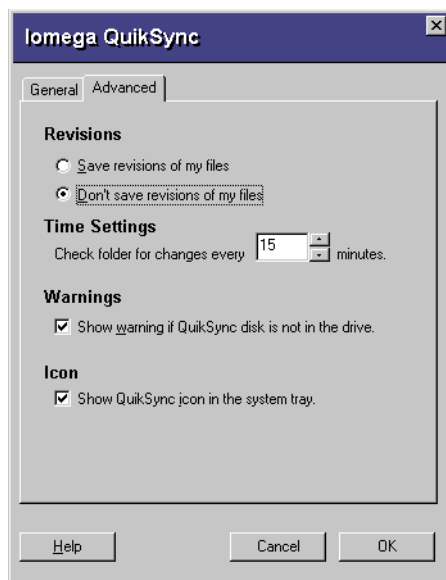

Figure 2-12 QuikSync Dialog Box (Advanced Settings)
3. Click the **Advanced** tab to display the dialog box in Figure 2-12.
4. Configure the dialog box exactly as shown in Figure 2-12; then click **OK** to save the configuration.